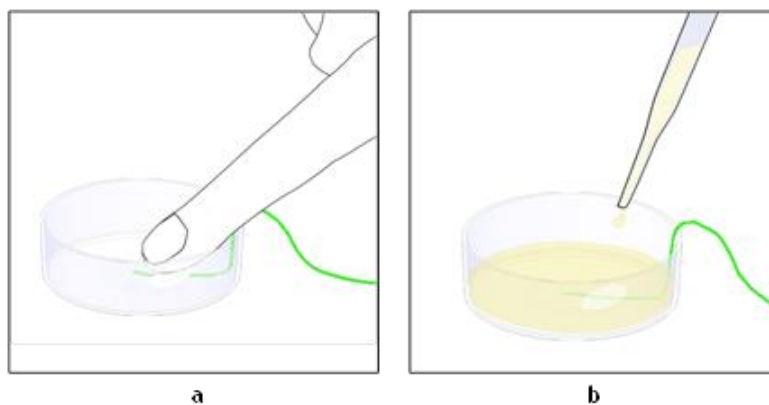

Figure 66. T Sensor attached on the bottom of the Petri dish (a -b).
- Secure with commercial adhesive tape the T Sensor to the bottom of the sample holder you use during standard operation (Petri dish, Chambered Glass Slide, etc.) as shown in Figure 66. Do not cover the tip of the T-Sensor with the adhesive tape.